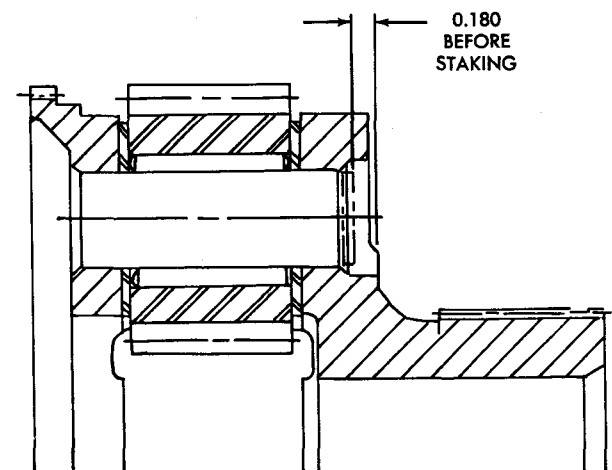

Fig. VI-16. Forward-range planetary carrier assembly—cross section, showing pin dimensions
(11) Place the carrier assembly into a press, remove the alining tool and start a chilled spindle 4 into the spindle bore.
(12) Press the spindle into the bore to the dimension shown in inset, fig. VI-16.
(13) Support the spindle and stake securely with an octagon punch on both ends. The pinion must rotate freely after assembly.
(14) Install the remaining three pinion assemblies in the same manner.